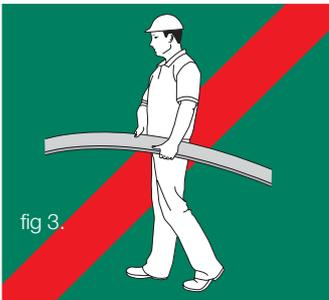

fig 3.
- Do not lift planked products flat and in the middle (figure 3).